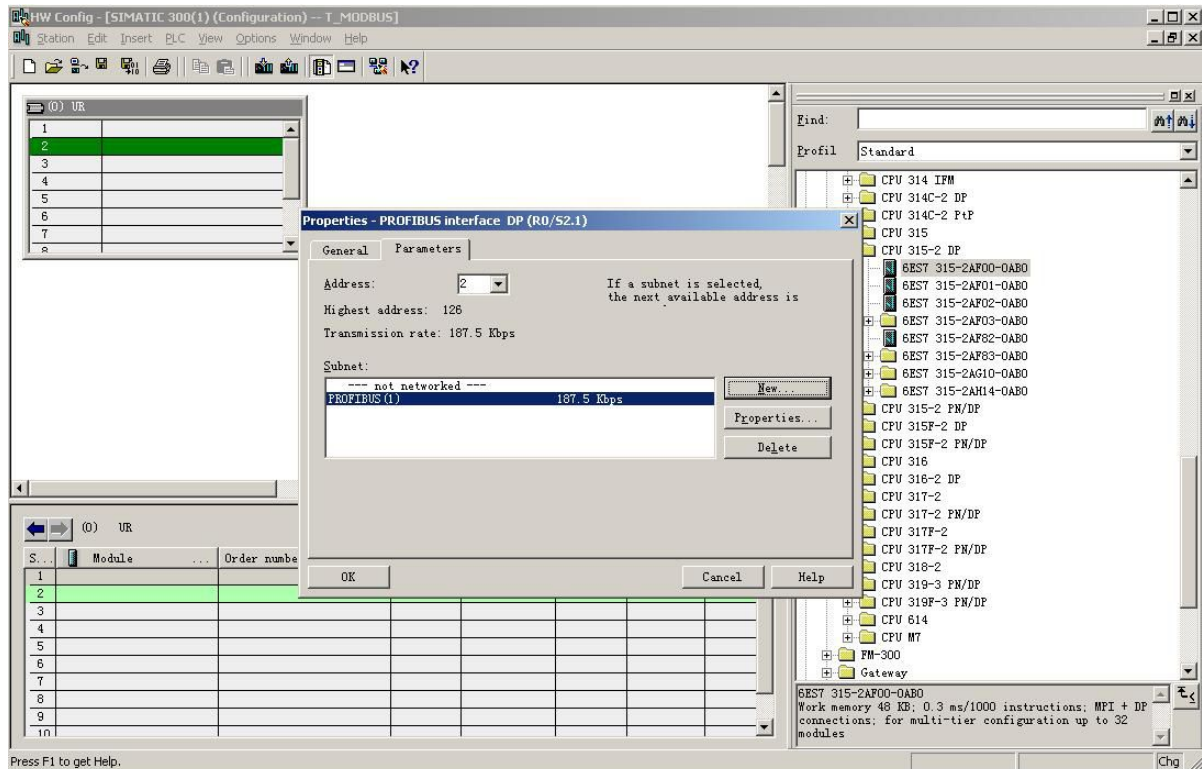

Figure 9
10. Select PROFIBUS DP Master address; Figure 9: